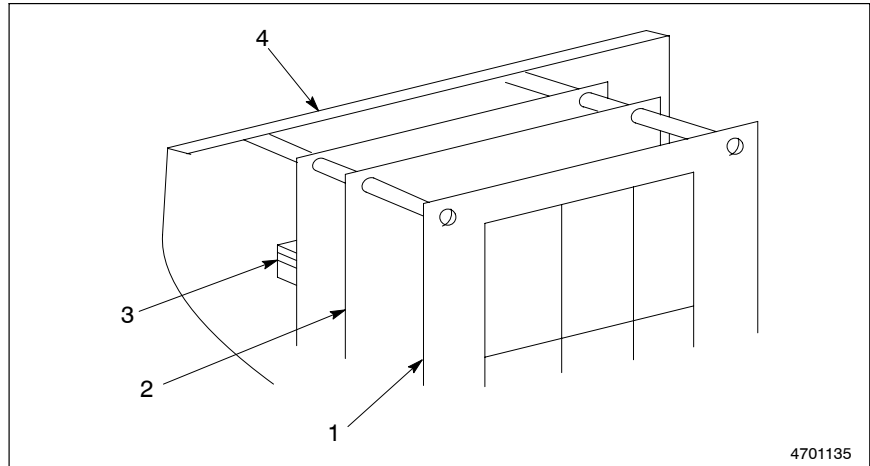

Fig. 2-2 LCU Organization
See Figure 2-2. The solid-state Logic Control Unit (LCU) is located inside the lockable electrical enclosure. The temperature control panel (1), LCU circuit board (2), and °F/°C display slide switch/display board (3) are components of the LCU.